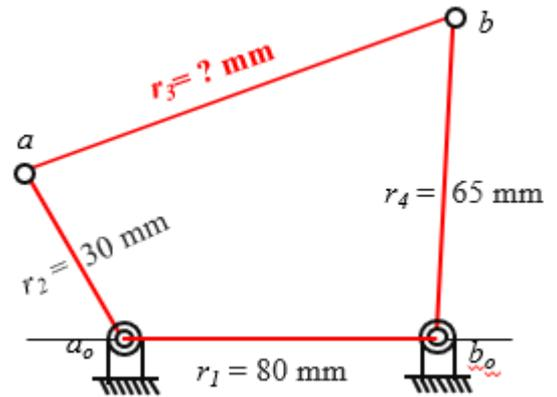

Fig. 3. 4-bar mechanism
3. For the 4-bar mechanism shown in Fig. 3, crank 2 is to rotate continuously and link 4 is to oscillate. What are the maximum and minimum values in millimeters which can be used for the coupler length ( $l_3$ ). (20%)
4. For the 4-bar mechanism, shown in Fig. 3, with  $r_1=70\text{cm}$ ,  $r_2=30\text{cm}$ ,  $r_3=95\text{cm}$ , and  $r_4=65\text{cm}$ . When  $\theta_2 = 120^\circ$  and  $\omega_2=1200\text{rpm}$ , please find (a) the angular displacements of  $\theta_3$  and  $\theta_4$ , (b) the angular velocities of  $\omega_3$  and  $\omega_4$ . (20%)